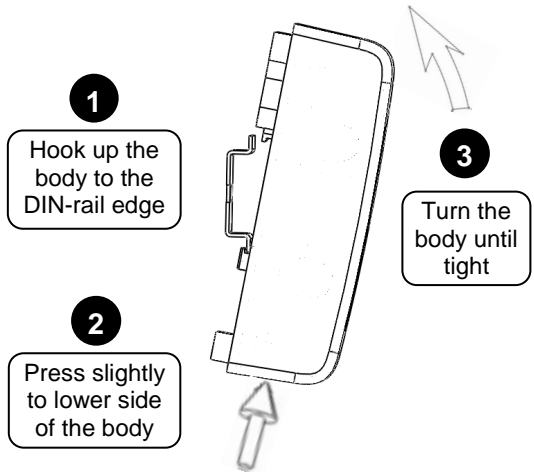

Figure 3. Installation on DIN Rail
3.2.1 Install the Controller onto a DIN rail as shown in Figure 3.